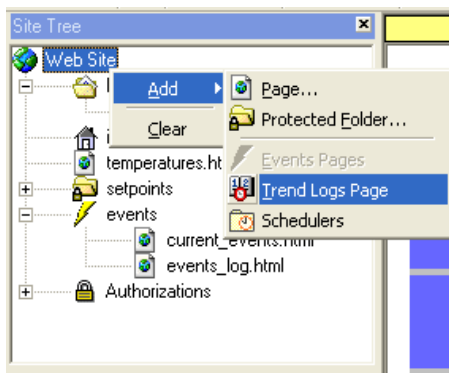

Figure 196: Adding the Trend Logs Page
- Right-click the Web site root and select Add and then Trends Log Page (Figure 196). A default Trend Logs Page is automatically created and added to the Site Tree.